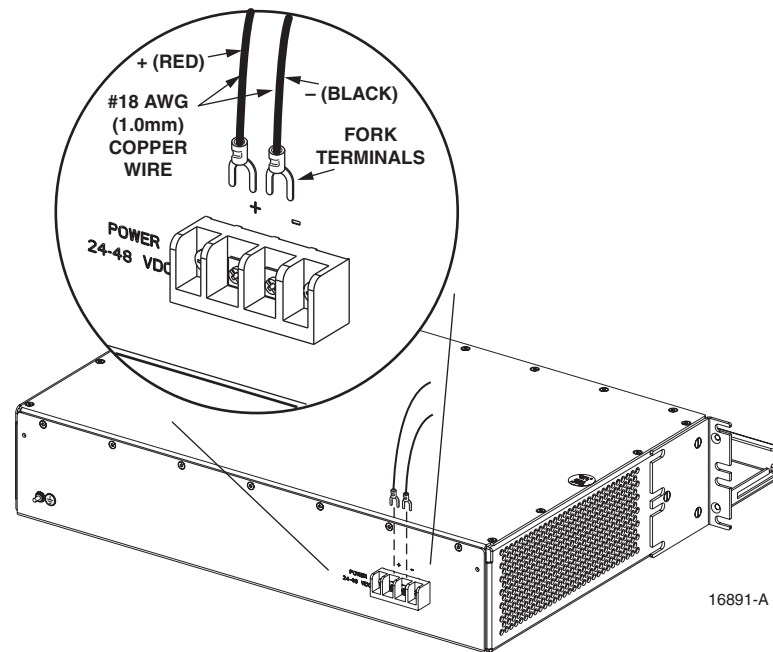

Figure 3-15. DC Power Connections
2. Terminate one end of each wire with a fork terminal as shown in Figure 3-15.